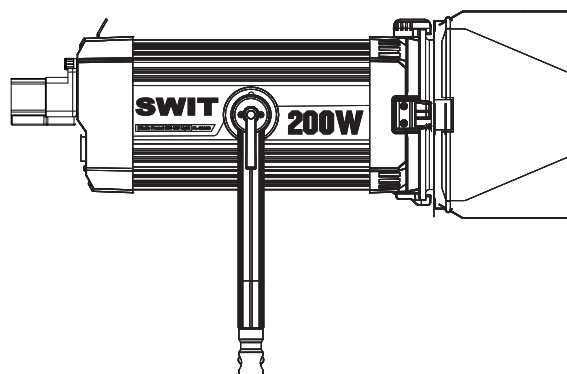
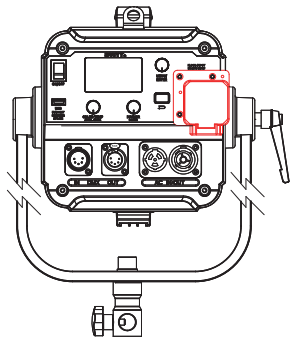

Figure 7 FL-C200D lateral side (motorised focus version)
Fig. 10 Control panel (after modification)
- 7) Align the motor module with the corresponding motor mounting screw holes on the control panel and use M3*12 screws for fastening, the appearance of the complete machine after modification is shown in Figure 7 and Figure 10;